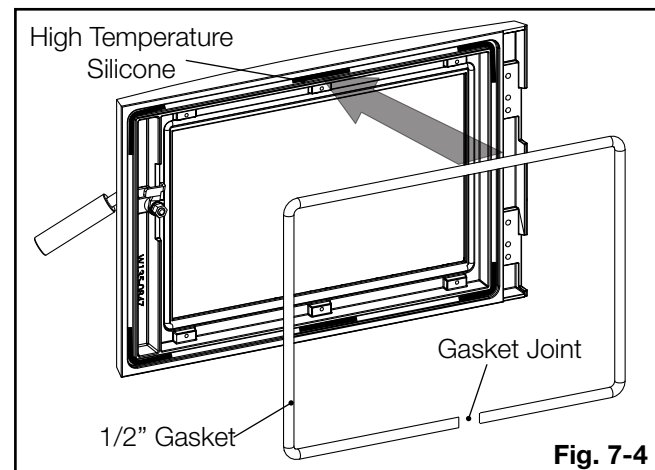

Fig. 7-4
2. Apply **high temperature silicone** (not supplied) in the gasket groove as illustrated (**Fig. 7-4**).
3. Cut the 1/2" gasket (supplied) to size and place on top of the silicone. Press the gasket down firmly to ensure it stays in place. Ensure the gasket joint is at the bottom as illustrated (**Fig. 7-4**).